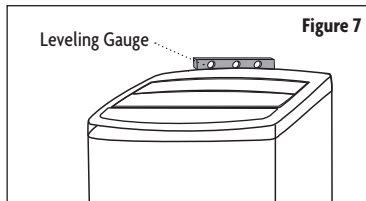

Figure 7
- If the washer is level, the pulsator is positioned at the center of the washer as shown in the Figure 7. If not, level your washer by turning the front leveling foot/feet clockwise or counterclockwise as necessary.